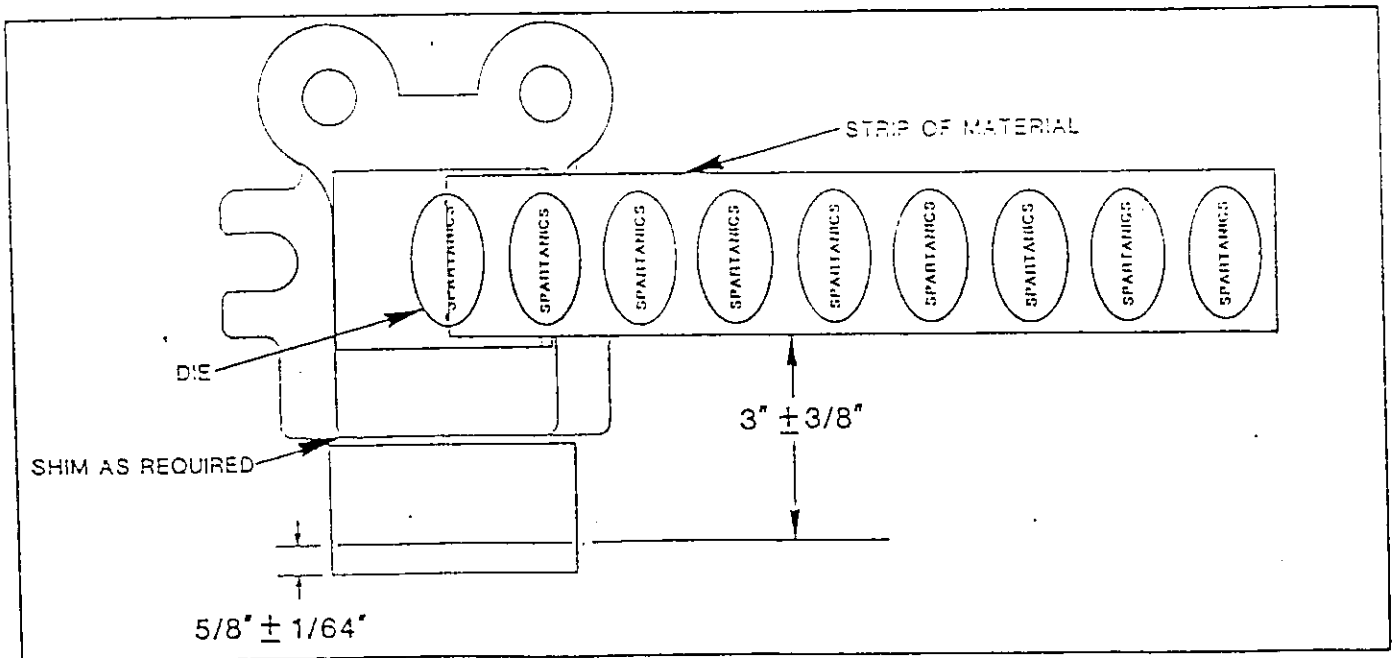

Figure 1-12
STEP 8: Scribe a line $5/8" \pm 1/64"$ away from edge of angle iron as shown in Figure 1-12. This line must be $3" \pm 3/8"$ away from edge of strip positioned over die. If it is not, shim angle iron with $5/8"$ I.D., $1"$ O.D. flat washers until it is.